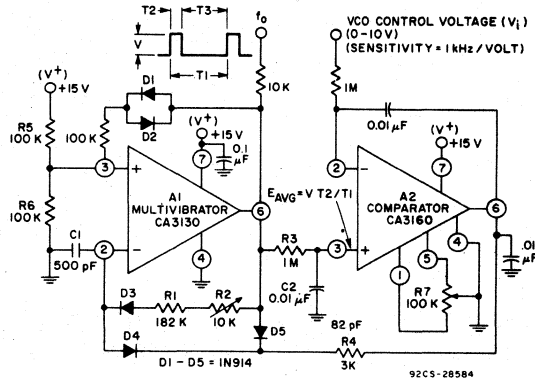

Fig.21 – Voltage-controlled oscillator.
The circuit diagram of a precision voltage-controlled oscillator is shown in Fig.21. The oscillator operates with a tracking error in the order of 0.02 percent and a temperature coefficient of 0.01%/°C. A multivibrator (A₁) generates pulses of constant amplitude (V) and width (T₂). Since the output (terminal 6) of A₁ (a CA3130) can swing within about 10 millivolts of either supply-rail, the output pulse amplitude (V) is essentially equal to V+. The average output voltage ($E_{avg} = V T_2/T_1$) is applied to the non-inverting input terminal of comparator A₂ via an integrating network R₃, C₂. Comparator A₂ operates to establish circuit conditions such that $E_{avg} = V_1$. This circuit condition is accomplished by feeding an output signal from terminal 6 of A₂ through R₄, D₄ to the inverting terminal (terminal 2)